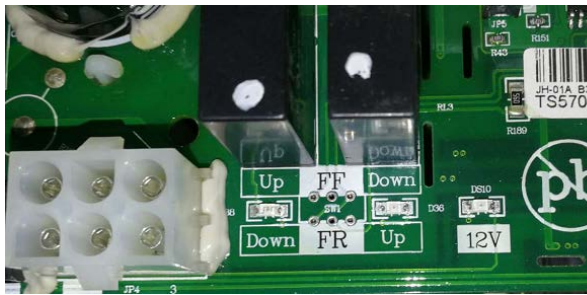

Figure 1: Normal
3. Check the Up/Down LED on the MCB, as shown in figures 1 and 2.